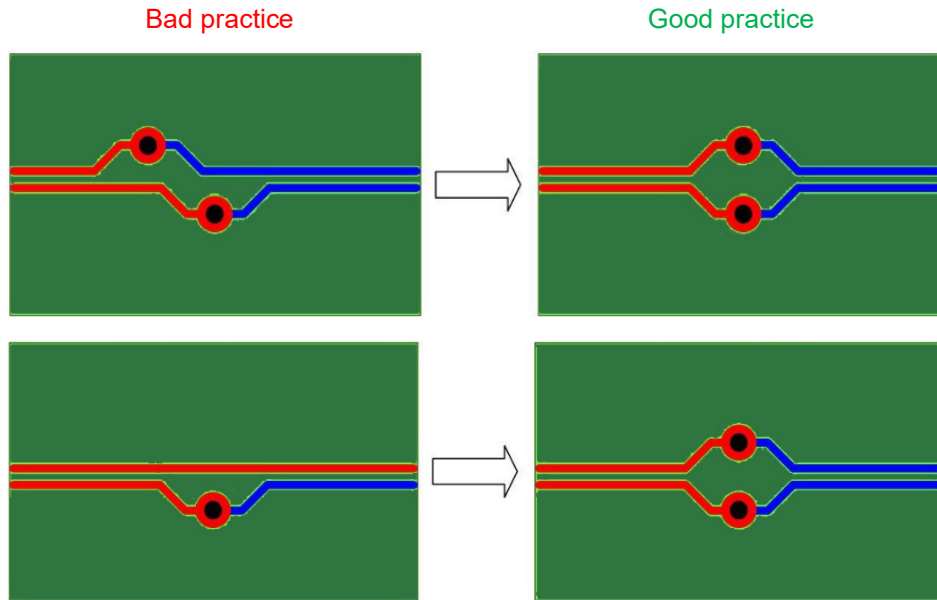

Figure 15. Differential Traces Layout Practices (2)
Differential Traces Layout Practices (2) (see Figure 15)